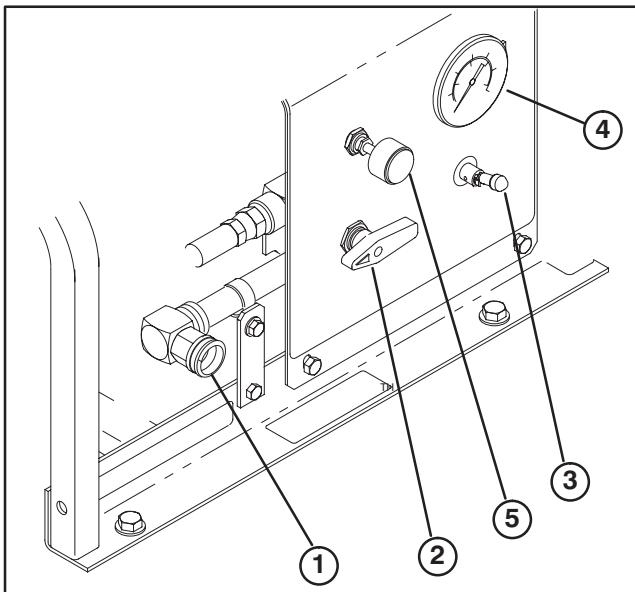

Figure 8
4. Check water level in tank or connect remote water supply hose to fitting on pressure washer pump assembly (Fig. 8).
5. Rotate water selector valve to hose or tank setting (Fig. 8).
9. Turn ON pressure washer pump switch (Fig. 8).
10. Operate spray gun and check water pressure on gauge (Fig. 8).
13. Adjust solution injector valve (Fig. 8) to attain the desired amount of solution mixed with outlet spray.
1. Turn OFF pressure washer pump switch (Fig. 8).